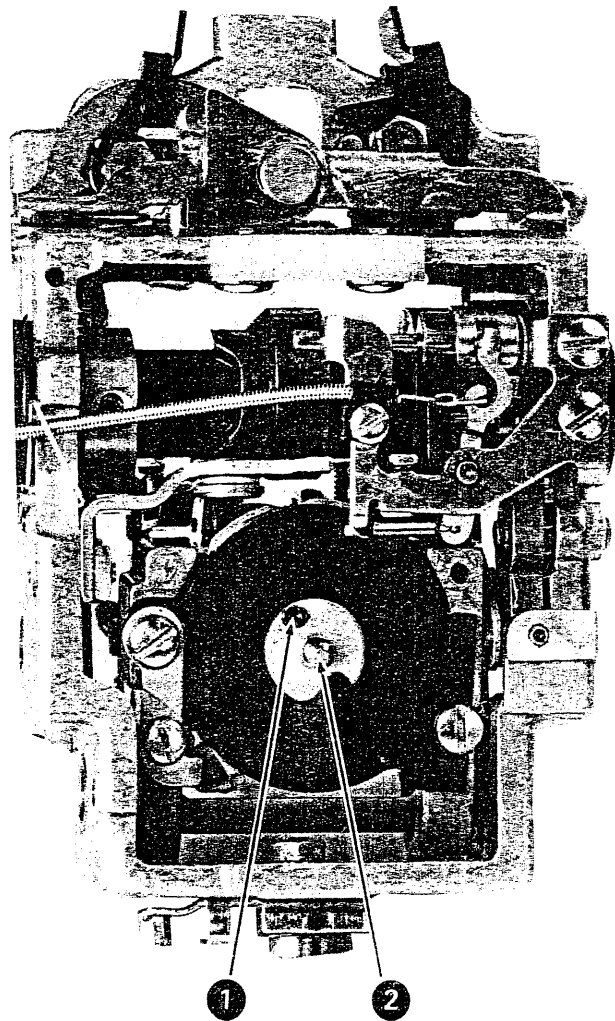

Figure 4-17. Lower-Ball-Socket and Tilt-Ring Removal (Steps 9 and 10)
9. Loosen the rotate-pulley setscrew (No. 1, Figure 4-17).
10. Use the butt end of a small spring hook as a follower to push out the lower ball socket (No. 2, Figure 4-17).